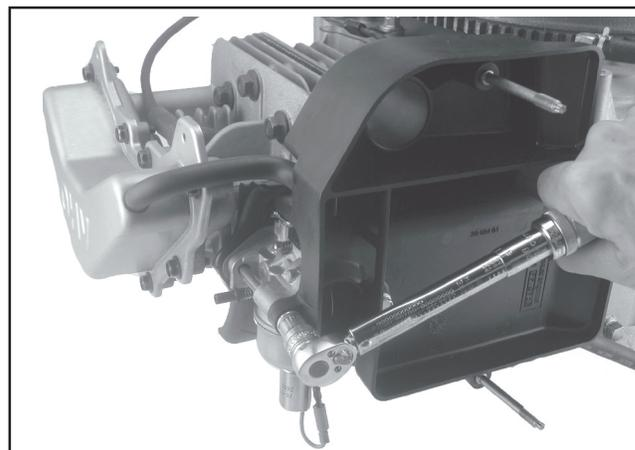

Figure 10-62. Torquing Air Cleaner Fasteners.
- c. Torque the nut(s) to **5.5 N-m (48 in. lb.)**. Torque the screw to **8.0 N-m (70 in. lb.)** into a new hole, or **5.5 N-m (48 in. lb.)** into a used hole, **do not** over tighten. See Figure 10-62. The M6 screw for the upper tab will be installed when the blower housing is mounted.